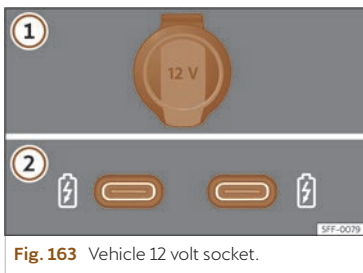

Fig. 163 Vehicle 12 volt socket.
>>> **Fig. 163**
Depending on the equipment and the country, the vehicle may also have USB connections **exclusively for charging or as a power socket** >>> **Fig. 163 ②**.